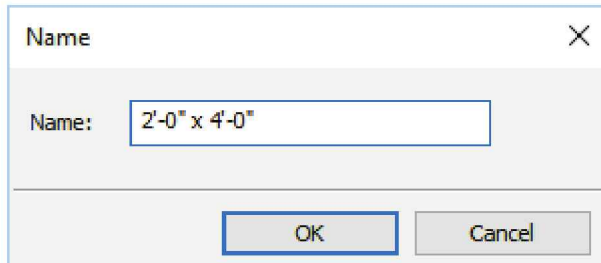

FIGURE 18-5.2 Naming the family type
4. Enter **2'-0" x 4'-0"** for the name of the first *Type* (Figure 18-5.2).